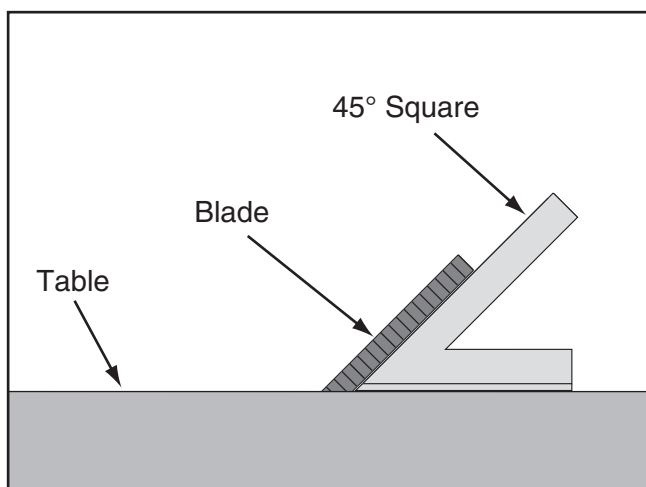

Figure 110. Checking blade at 45°.
3. Place a 45° square against the table and blade so it contacts the blade evenly from bottom to top, as shown in **Figure 110**. Make sure a blade tooth does not obstruct the placement of the square.